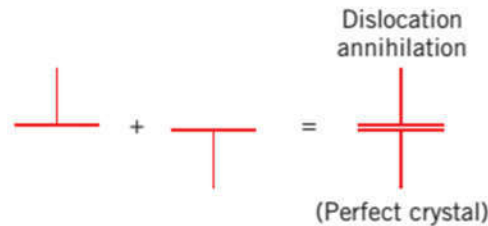

Figure 9. Dislocation annihilation
- 6) Dislocation annihilation (**Figure 9**); Edge dislocations of opposite sign and lying on the same slip plane exert an attractive force on each other. Upon meeting, they annihilate each other and leave a region of perfect crystal.